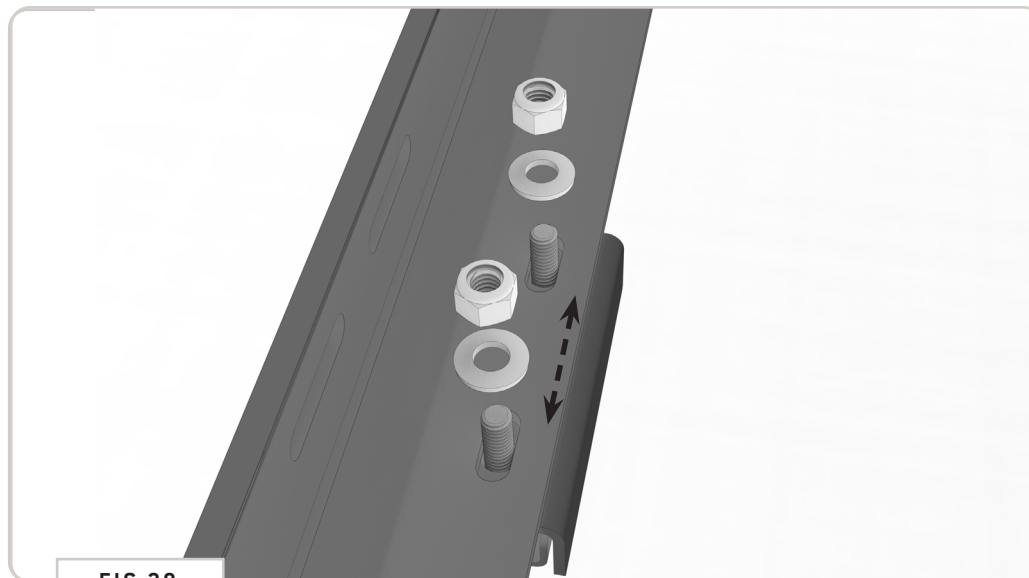

FIG 20
6.2 Front-To-Back Adjustment: Check to make sure you are happy with your alignment to the van Front-To-Back. Once you are happy with how the rack is aligned, proceed to tighten down fasteners holding the **Side Rails** to the **Landing Pads** (FIG 20).